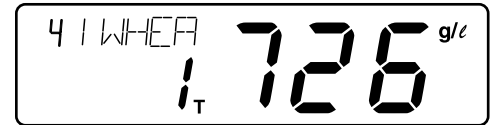

Figure 17
(4) Press $\frac{g}{L}$ — key, weight/liter is displayed. (Figure 17)